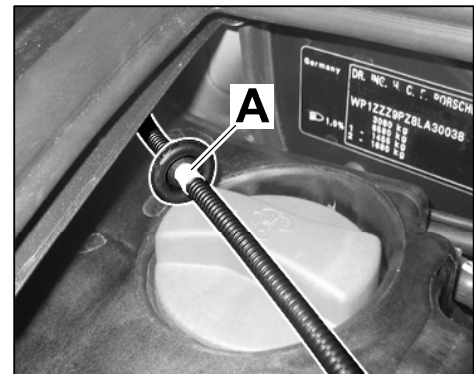

Figure 16
- 4.3.2 Guide electric line through the rubber sleeve. The white marking $\Rightarrow$ *Figure 16 -A-* on the electric line determines the position of the rubber sleeve.